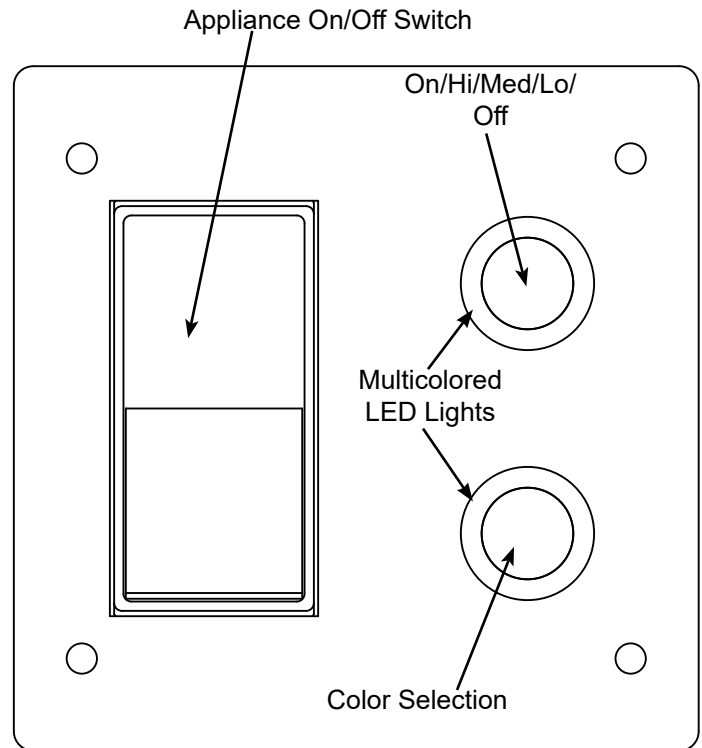

Figure 8.6 Wall Control Switch
- Multi-colored LED lights - The two (2) round buttons on the right in Figure 8.6 turn LEDs ON (HI/MED/LO) and OFF function and cycle through the color selection.